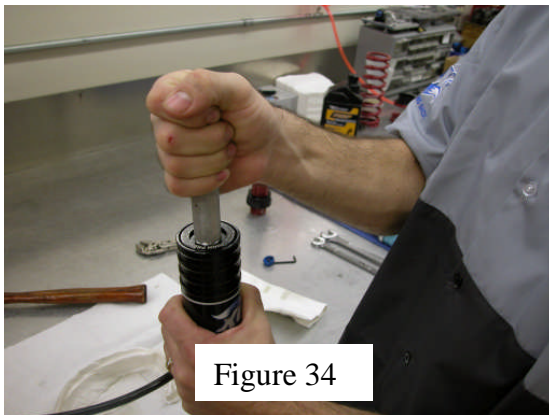
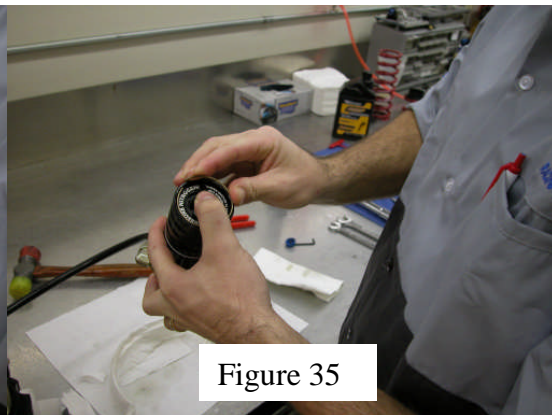

Figure 34
Figure 35
51. Install the reservoir end cap with the Schrader valve facing the outside of the reservoir tube. **(Figure 34)** Push down on the reservoir end cap using even pressure, until it bottoms. **(Figure 35)** Install the wire-retaining ring, and check to make sure retaining ring is seated properly. Push the shaft assembly completely into the body tube. If reservoir cap is not properly seated against the retaining clip, tap it gently with a rubber mallet until it snaps into place. Remove shock assembly from vice.